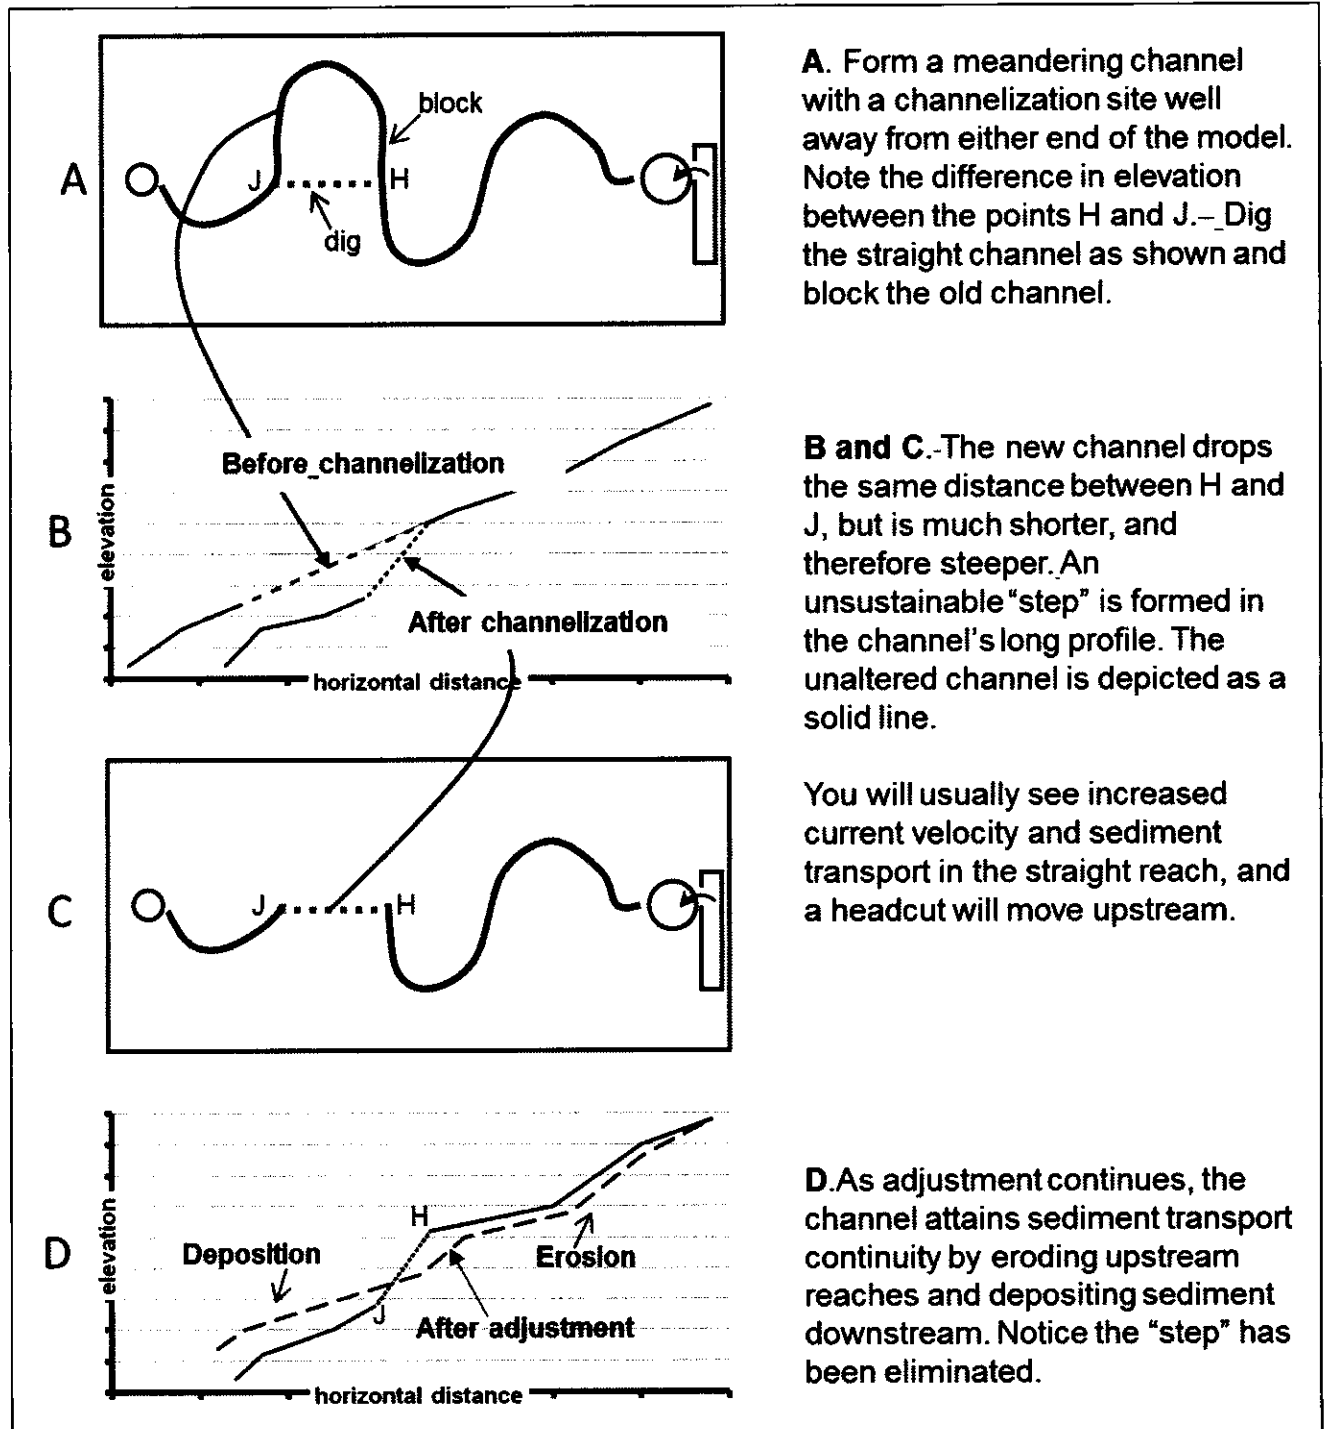

Figure 5.1 - Channelization by replacement of a meander bend with a straight section, and expected effects and adjustments in an Emriver channel.
Setup for channel straightening demonstration. Also see Figure 5.1 below.
Pick a meander bend in the middle of the model. You will want to observe channelization impacts both upstream and downstream of your straightening. Figure 5.1 shows a typical setup. Use the level rod and bracket (optional accessory, part of the Emriver Academic Kit) to mark the water surface elevation upstream of the channelization site. Place the rod tip just at the water surface and leave it there throughout your demonstration.
Note the difference in streambed elevation above and below your proposed channelization site (points H and J, Figure 5.1). You may also want to note or measure the thalweg distance between these two points. These two values give you the channel slope.
Next, use a scoop to excavate the new channel. Put this material in the old channel as shown in Figure 5.1-C.
As shown in Figure 5.1, the straightened channel will show the same elevation drop, but over a shorter distance. The new channel will thus have a steeper slope, sometimes twice the slope. This change in slope will produce a "step" in the long profile (as illustrated in Figure 5.1-B). This steeper section is out of equilibrium with sediment transport processes up and downstream, and is thus unsustainable. The increase in slope will result in higher flow velocities (which is often the rationale for straightening – to increase flood flow conveyance) and erosion in the channelized reach. The long profile tends to adjust to achieve sediment transport continuity by eroding upstream and depositing sediment downstream of the straightened reach.
- Downstream reaches are flooded with sediment. The channel will gradually reclaim sediment transport continuity by forming the long profile shape shown in Figure 5.1-D. In general, the downstream reach is graded and the upstream reach is incised. You will usually see very high sediment export rates at the standpipe during this demonstration.
4. Resurvey the long profile, taking care to note the new and old channel profiles as shown in Figure 5.1. This is the “during” or as-built condition.
6. Turn off flow and resurvey. This is your “after” survey. Your results should look roughly like the schematic in Figure 5.1, though many variations are possible. You may see upstream incision without downstream deposition, for example.